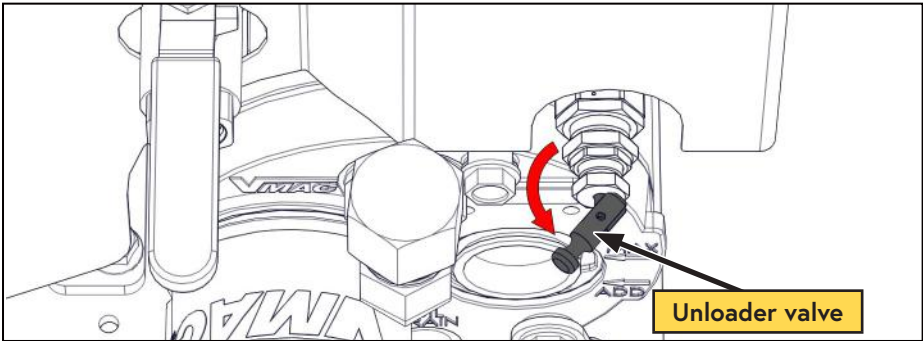

Figure 19 — Unloader valve
- 5) Actuate the unloader valve by pulling out the handle (Figure 19).